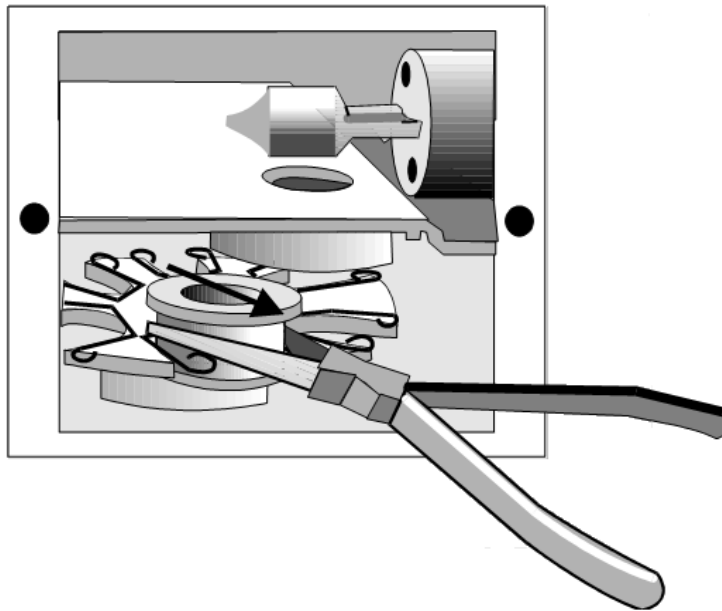

Figure 152: Removing a Filter
2. Remove the filter access panel. The filters are mounted on the filter wheel as shown in Figure 152.
4. Firmly grasp the exterior filter housing with a pair of needle nose pliers (Figure 152).